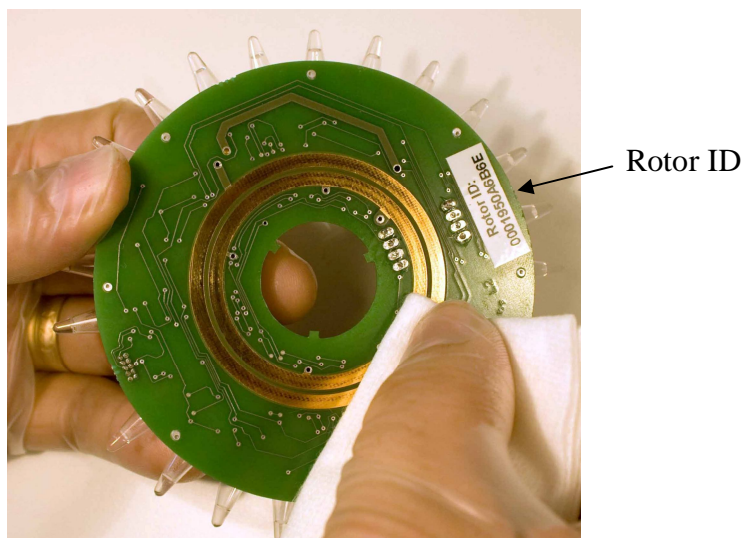

Figure 15 Clean the electrical contact surfaces underneath the rotor using a damp cloth, moistened with isopropanol.
Clean the electrical contact surfaces underneath the rotor using a damp cloth before use (see Figure 15).
2. Check the rotor id shown on the display and the id number found underneath the rotor (Figure 15).